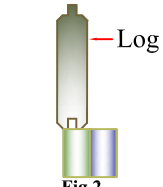

**FIG 23**
2. Hold into position with four pieces of beading. The beading may need to be swapped around to get the best fit. When satisfied secure into position using 2x 15mm panel pins per piece of beading (Fig 23).